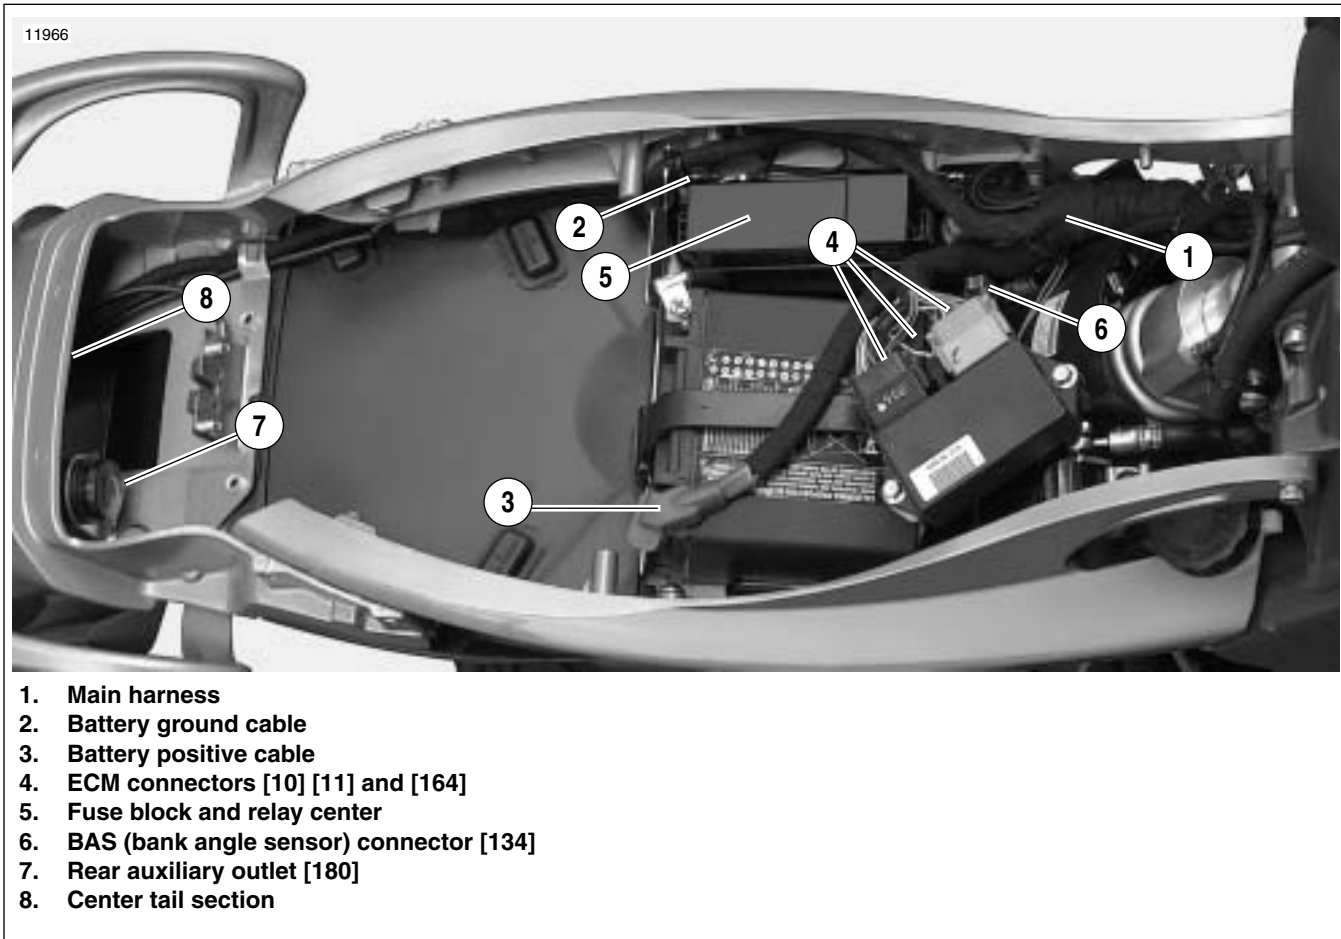

Figure 7-83. Main Harness and Electrical Connectors Under Seat
9. See Figure 7-83. Remove the wire cover to access and disconnect:
- See Figure 7-83. Interactive exhaust connector [165B], (under main wiring harness)